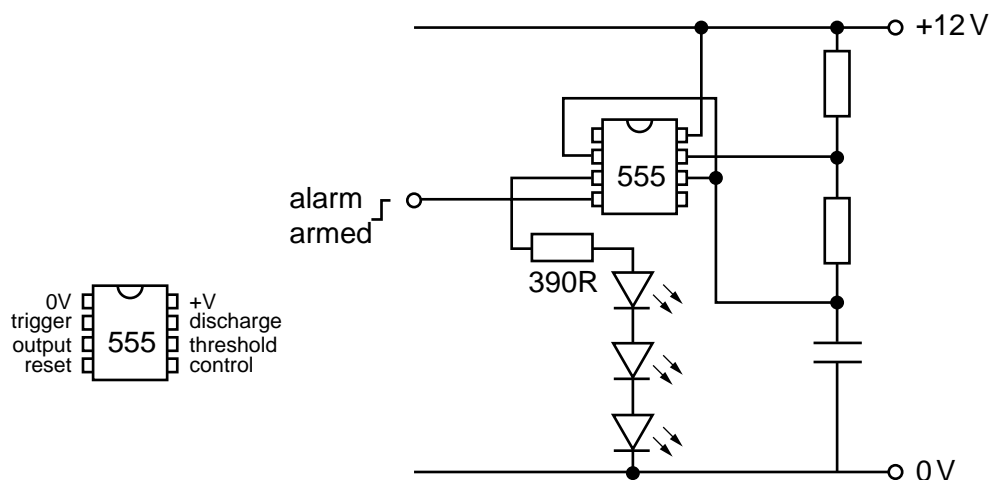

Fig. 7
- (i) Complete the astable circuit shown in Fig. 7. [4]